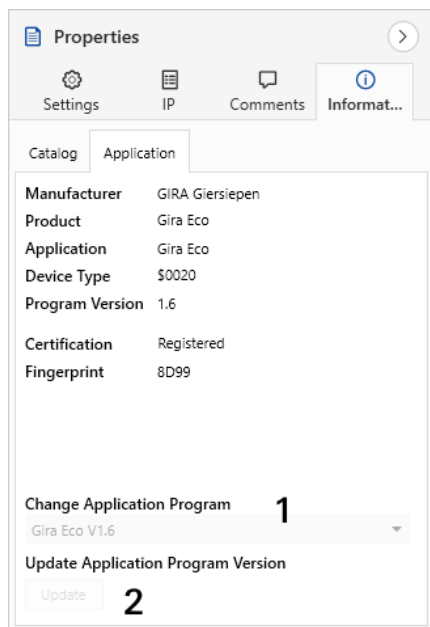

Figure 20: Updating the application program
5. Select the "Update" button under the item "Update application program version" (figure 20, pos. 2)
If you change the value under "Change application program" (figure 20, pos. 1), user-defined settings such as links to group addresses will be lost.